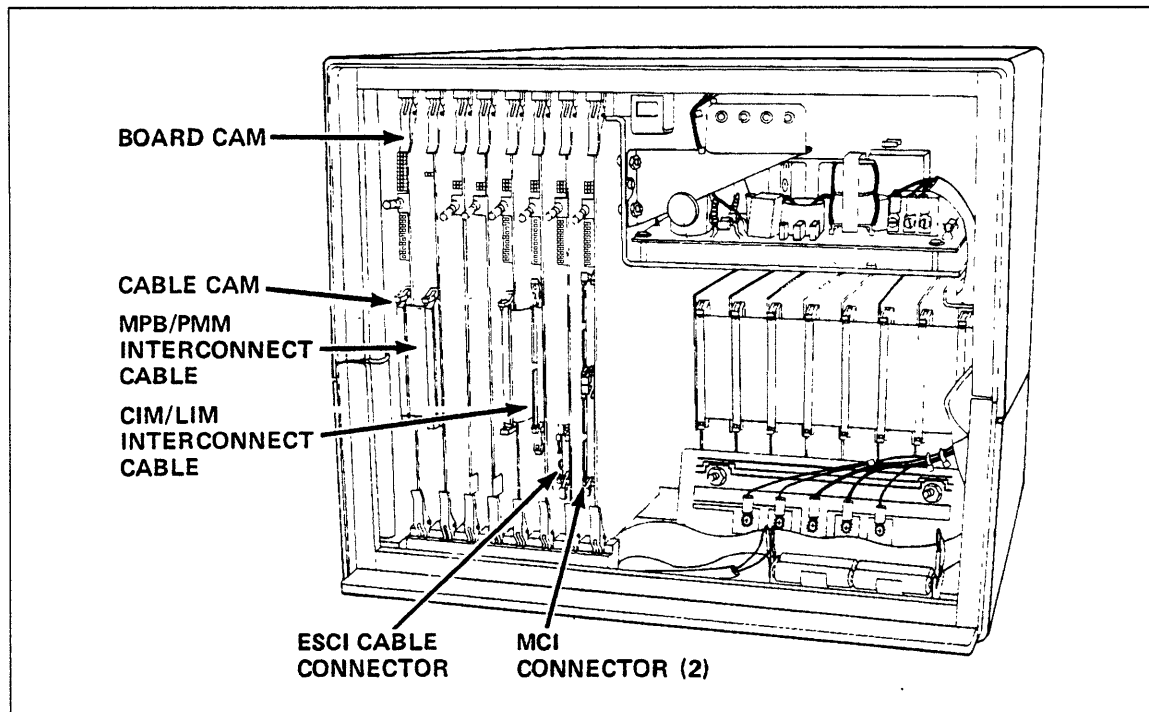

Figure 9-9. Main Logic Board Typical Cabling
The DI main logic backpanel is the one to which all the main logic boards connect (figure 9-9).
3. Disconnect all cables (label each cable for easy reassembly) on front of main logic boards. Cables present vary with each configuration. Figure 9-9 shows typical cabling.
4. Remove all main logic boards (label board slot number for easy reassembly) by rotating upper and lower cams (figure 9-9) simultaneously.